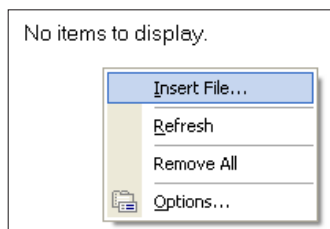

Figure 53: Insert File
- Right-click in the area that says *No items to display*, and select **Insert File (Figure 53)**.